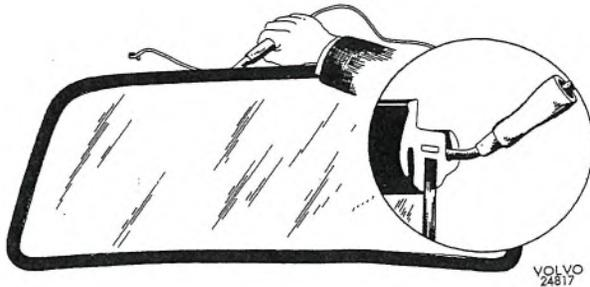

Fig. 8-40. Putting fitting cord in rubber strip
3. Fit a cord (suitably of terylene), beginning in the middle of the upper side, in the rubber stripping slot for the plate edge (Fig. 8-40).
2. Fit a cord (preferably terylene $\text{\O} 4 \text{ mm} = 5/32''$) in the groove of the rubber strip for the sheet-metal edge, beginning at the top centre as shown in Fig. 8-40.